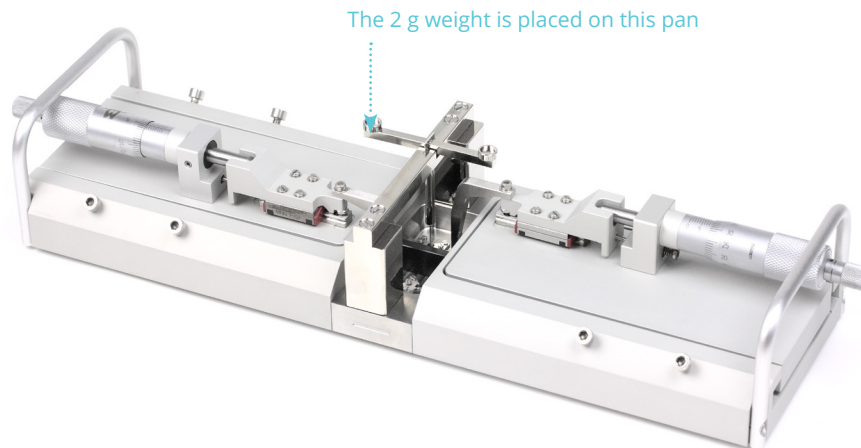

Figure 3.1 Force calibration set-up - showing placement of the calibration bridge and T-balance for Dual Wire Myograph - 420A
- Place the calibration bridge and T-balance on the Wire Myograph (see figure 3.1) allowing it to be warmed up together with the Wire Myograph. Turn on the heating in the Heat sub-menu to the appropriate temperature used during your experiments
Step 5 - At this step, place the 2 gram weight at the pan on the calibration T-balance closest to the transducer (over the transducer) see figure 3.1, to simulate the stretch created by the contraction of a mounted ring preparation.